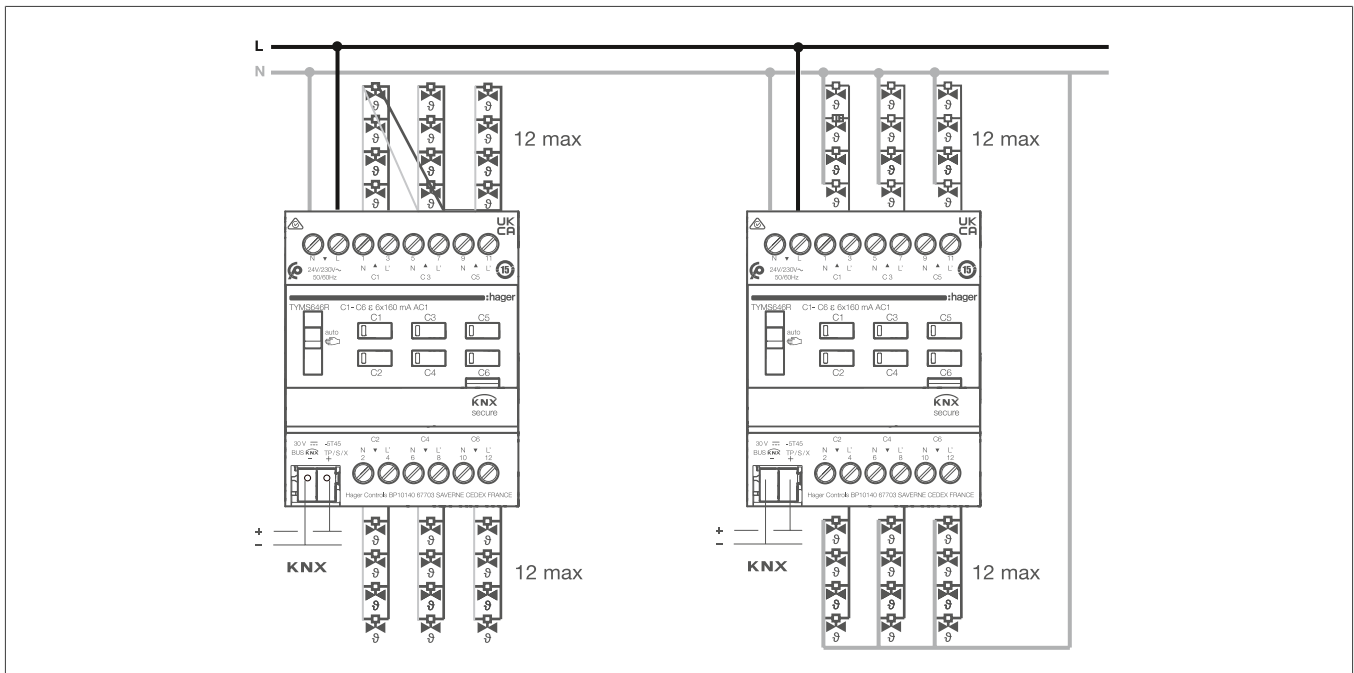

Fig. 4: Connection diagram for valve drives with 230 V~ power supply
- 1 Connect the 230 V AC valve drives to the device according to the connection diagram ((Bild 4: Connection diagram for valve drives with 230 V~ power supply)).